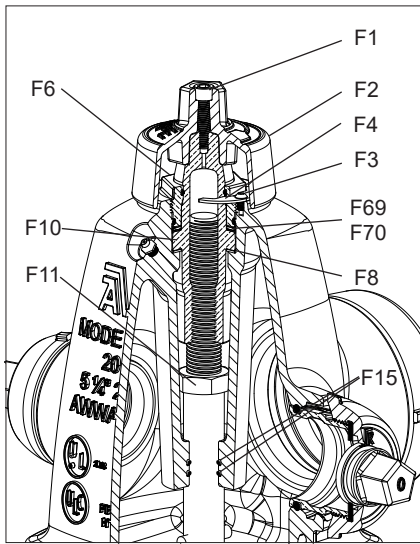

Fig. 7A
1. Remove the Weathershield Bolt (F1) with a 5/16", (8mm) hexagon key. Lift off the Weathershield (F2). (See Fig. 7A)
3. Using the AVK operating wrench, or a large adjustable wrench, unscrew the Thrust Nut (F6) counterclockwise. (See Fig. 7A & 7B)
7. Place one Anti Friction Washer (F8), on the top and bottom of the Operating Nut (F10) thrust collar. (See Fig. 7A)
10. Place one Anti Friction Washer (F8), on the bottom of the Operating Nut (F10) thrust collar, and the Thrust Bearing and Races (F69, F70) on the top of the Operating Nut (F10) thrust collar. (See Fig. 7A)